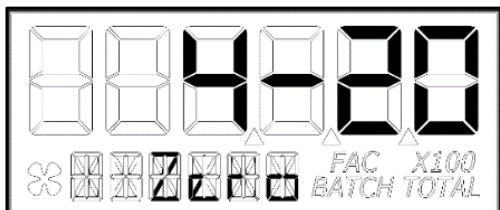

Figure 29-1
**“Zero” Setting:** This figure will flash for 1 second before allowing the user to change the 4mA or “zero” setting (see Figure 29-1). This setting will already be configured for the minimum flowrate of the meter this Q9 was attached to, when shipped from the factory.